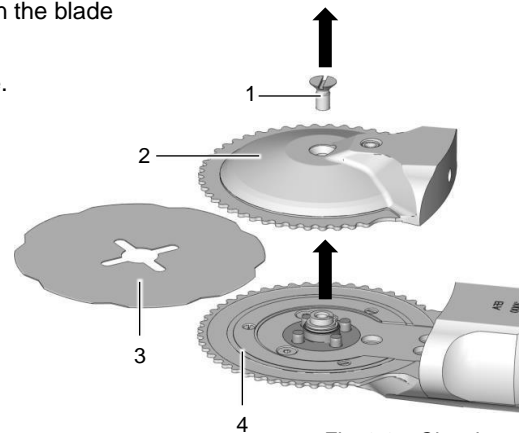
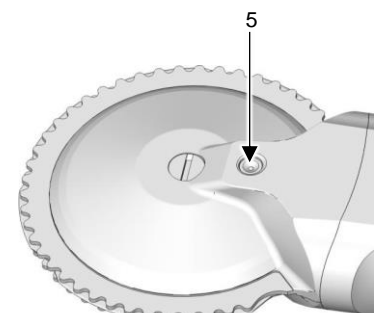

Fig. 8.6 – Cleaning
Fig. 8.7 – Grease nipple blade bearing
EFA 2000 (see Fig. 8.6 and Fig. 8.7)
- 1) Remove the blade cover see Fig. 8.6.
- 2) Press EFA special grease into the grease nipple (10) with 2 strokes of a grease gun.